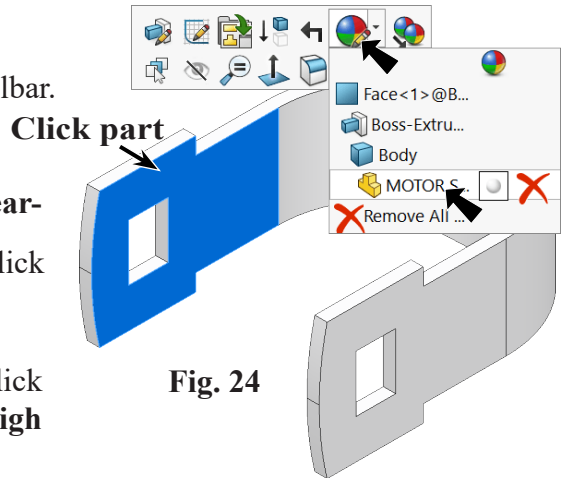

Fig. 24
Step 2. Click the **Motor Strap** to select part, click **Appearances Callout**  on the context toolbar and click **Motor S..** , Fig. 24.